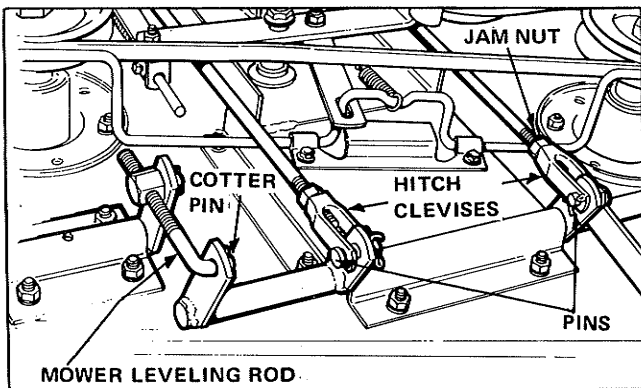

Figure 38. Leveling Mower
5. Remove the cotter pin holding on the mower leveling rod (figure 38), and shorten the rod to raise the left side of the mower, and lengthen the rod to lower the left side of the mower. Put the leveling rod back in its hole and recheck the measurements. When both sides are the same height, replace the cotter pin in the leveling rod.
8. Remove the cotter pins and pins from the hitch clevises (figure 38). Turn each clevis an equal number of turns in the same direction, shortening the hitch rods to raise the front of the mower, and lengthening the hitch rods to lower the front of the mower.